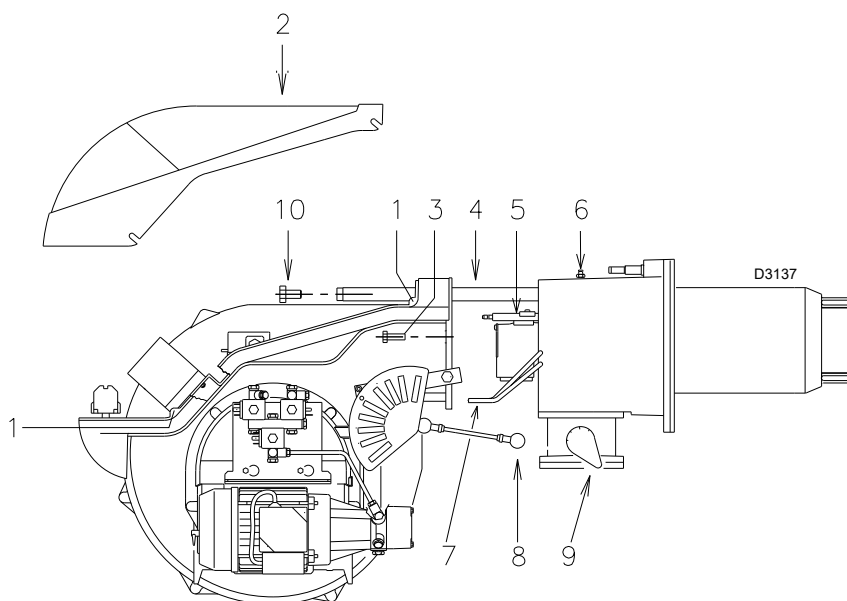

Fig. 44
- Loosen the screws 1) and remove the hood 2)(Fig. 44).
- Disconnect the light oil pipes 7)(Fig. 44).
- Remove the screws 3) and move the burner backwards by about 100 mm on the slide bars 4)(Fig. 44).
At this point it is possible to extract the inner part 5) after having removed the screw 6)(Fig. 44).